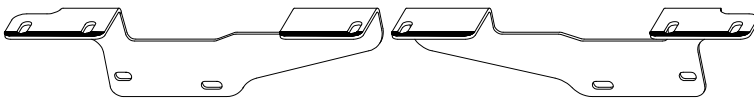

Figure A2: Polypropylene tape application.
- **Side Plates:** Apply tape to the outside edge of each flange as shown in Figure A2.